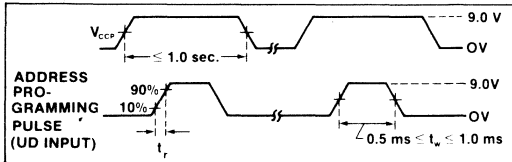

Figure 2. Address Programming Pulse
- Step 3: After  $V_{CC}$  has stabilized, apply a single programming pulse (Figure 2) to the user-bus bit that corresponds to the desired high-level  $\overline{IV}$  address bit. The I/O port is programmed from the user bus (UD0-UD7) for addressing from the MicroController bus ( $\overline{IV0}$ - $\overline{IV7}$ ).